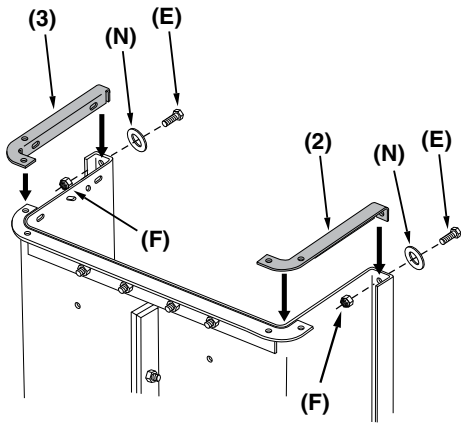

Figure 3
STEP 3 (SEE FIGURE 3): Attach the rear angles (2 & 3) to the cart bed using two 1/4" x 3/4" hex bolts (E), 1/4" washers (N) and 1/4" nylock nuts (F). **Do Not Tighten!**